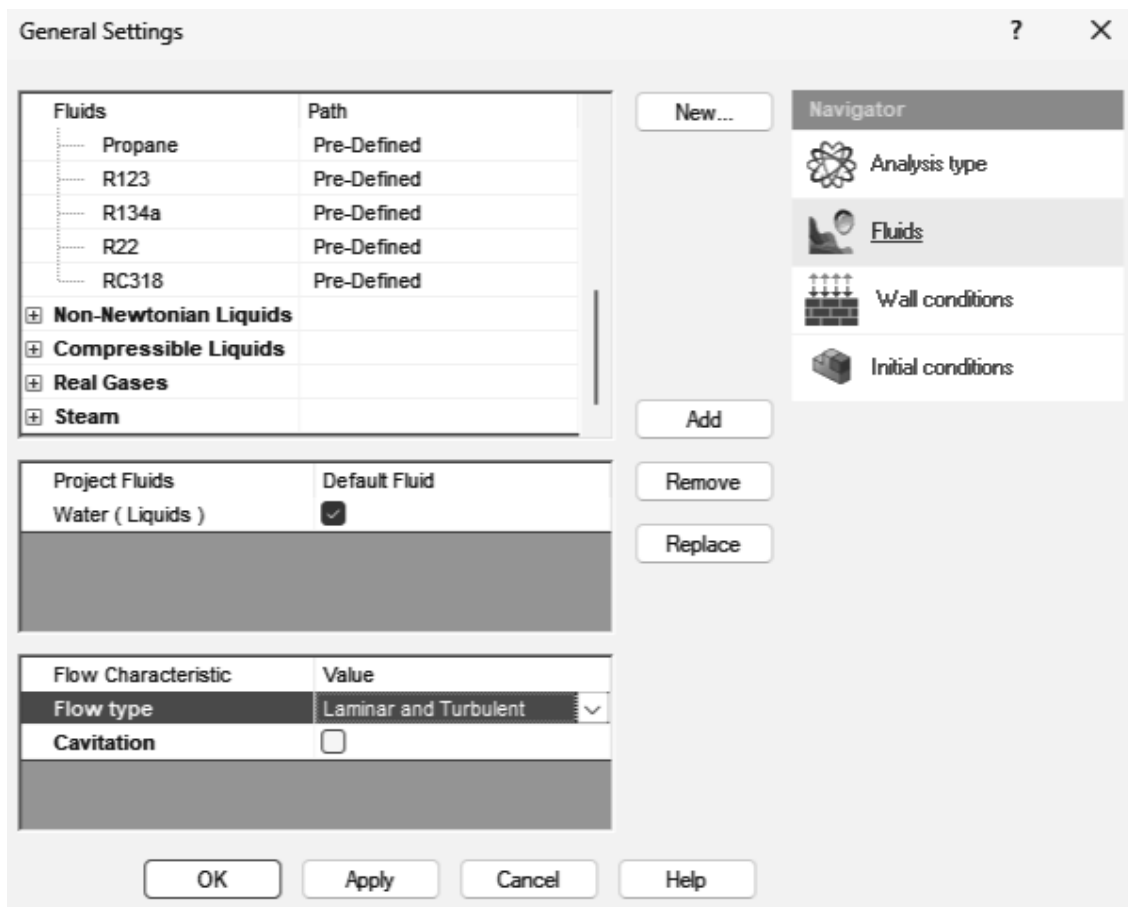

Figure 2.27d) Selection of fluid and flow type
27. In the next step, we will clone the project. Select the tab **Flow Simulation>> Clone Project...** Enter the Project Name **Flat Plate Boundary Layer Study Using Water**. Select **Create New Configuration** and exit the **Clone Project** window. Next, change the fluid to water to get higher Reynolds numbers. Start by selecting the tab **Flow Simulation>>General Settings...** from the SOLIDWORKS menu. Click on **Fluids** in the **Navigator** portion, select **Air** and click on the **Remove** button. Select **Water** from the **Liquids** and **Add** it as the **Project Fluid**. Change the **Flow type** to **Laminar and Turbulent**, see figure 2.27d). Click on **Apply** and the **OK** buttons to close the **General Settings** window.